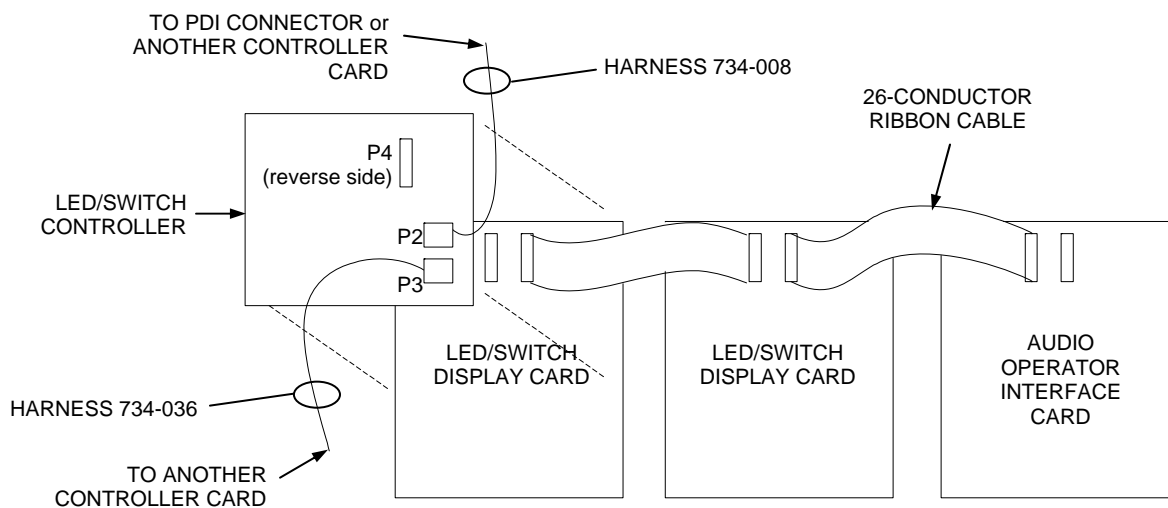

Figure 5. Audio Operator Interface Bay Wiring
3. Secure the controller card to the board using four #6 screws, as shown in Figure 5.